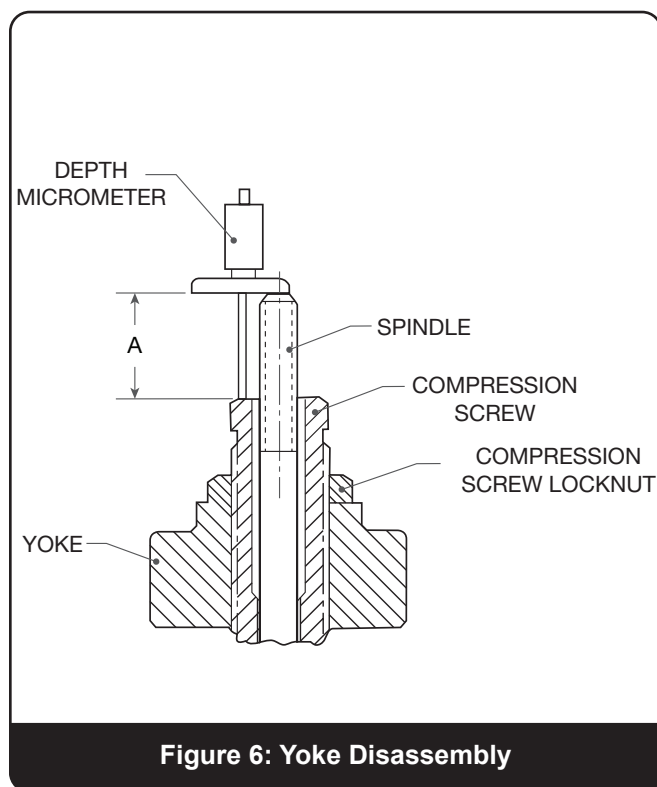

Figure 6: Yoke Disassembly
4. Refer to Figure 6, and measure and record Dimension A, as this information will be required to correctly re-assemble the valve.